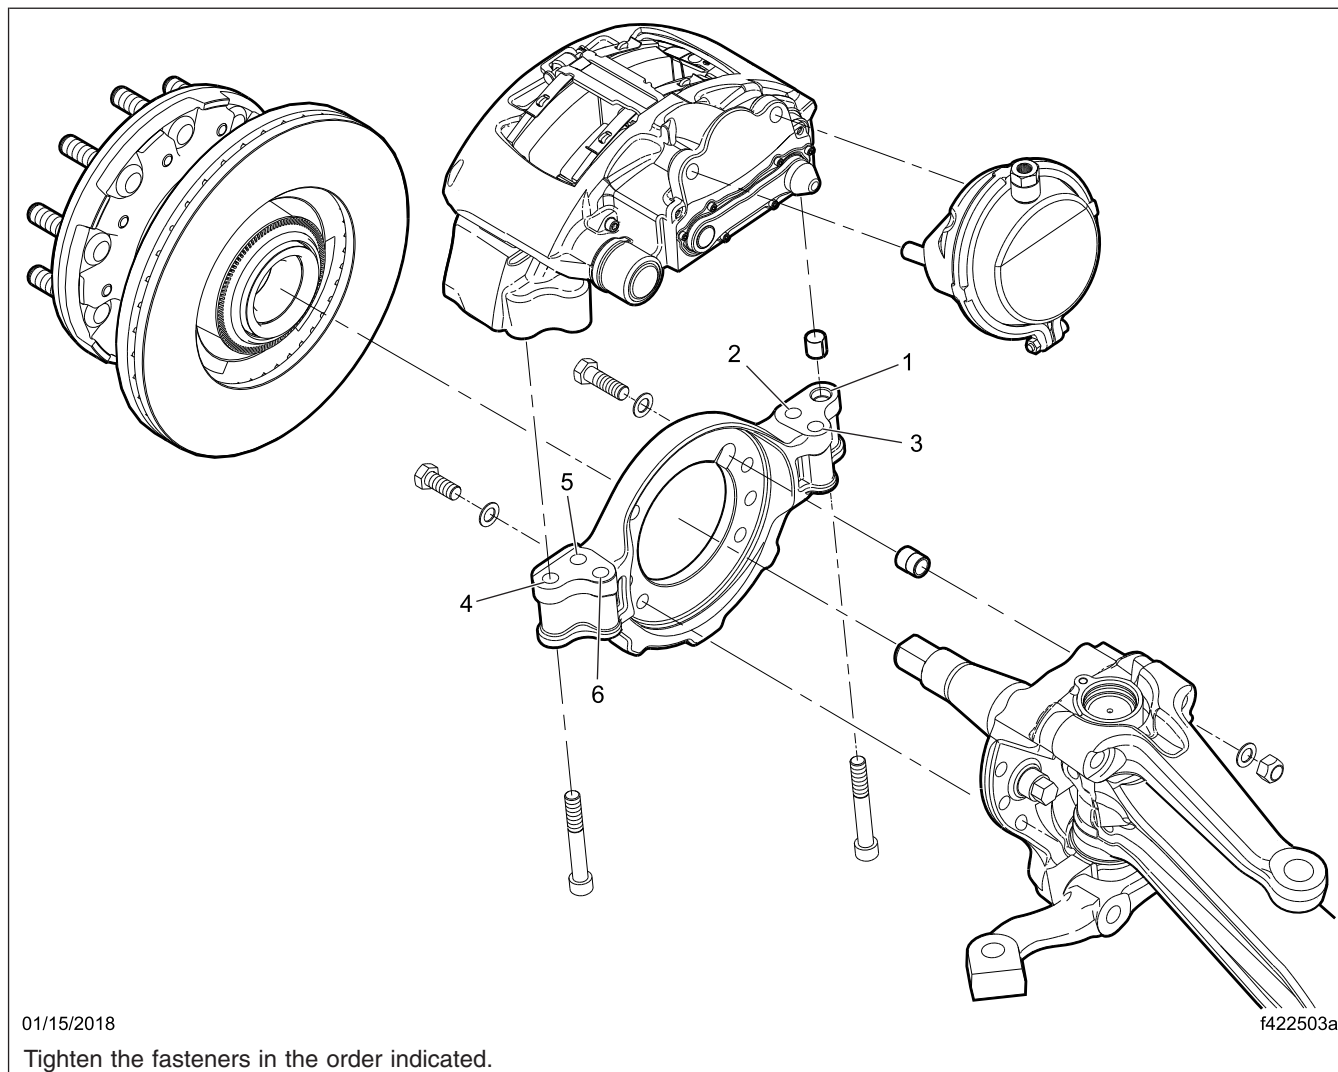

Fig. 2, Radial Mounted Caliper
5. Align each caliper/carrier assembly with the rotor by pushing the fixed pin side of the caliper against the shelf on the torque plate, then install the caliper/carrier assembly using new caliper mounting bolts. See Fig. 2.
6. Tighten the carrier mounting bolts in two steps, using the pattern shown in Fig. 2.